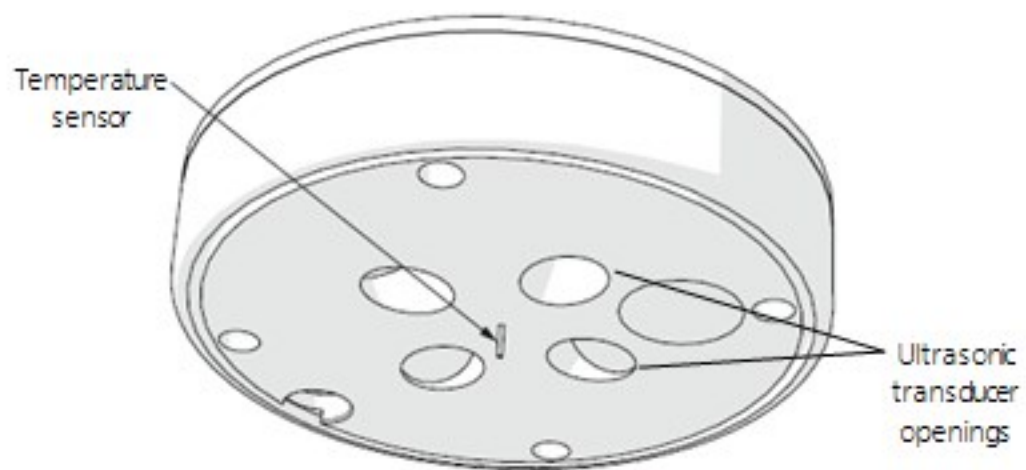

Figure 9-1. Temperature sensor and ultrasonic transducer openings
1. Remove cobwebs, leaves, bird droppings, wasp nests, or other debris from the temperature sensor (Figure 9-1 (p. 32)), ultrasonic transducer openings (Figure 9-1 (p. 32)), rain gauge funnel (Figure 9-2 (p. 32)), pyranometer (Figure 9-2 (p. 32)), and sintered glass reflection plate (Figure 9-3 (p. 33)).
Gently clean the sonic transducers and do not allow water to enter the ultrasonic sensors (Figure 9-1 (p. 32)). Water may corrode the metal parts inside the sensors and ruin them.